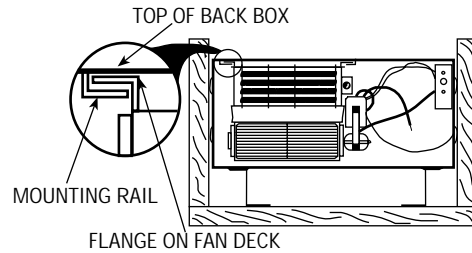

Figure 7
2. Insert flanges on fan deck into mounting rails and slide back until fan deck stops (see Fig. 7).